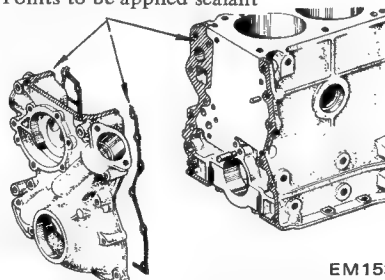

Fig. EM-76 Applying sealant (Front cover and gasket)
- (1) Front cover gasket: Front side of cylinder block and cover gasket. See Figure EM-76.
- (2) Front cover: Top of front cover, see Figure EM-76.